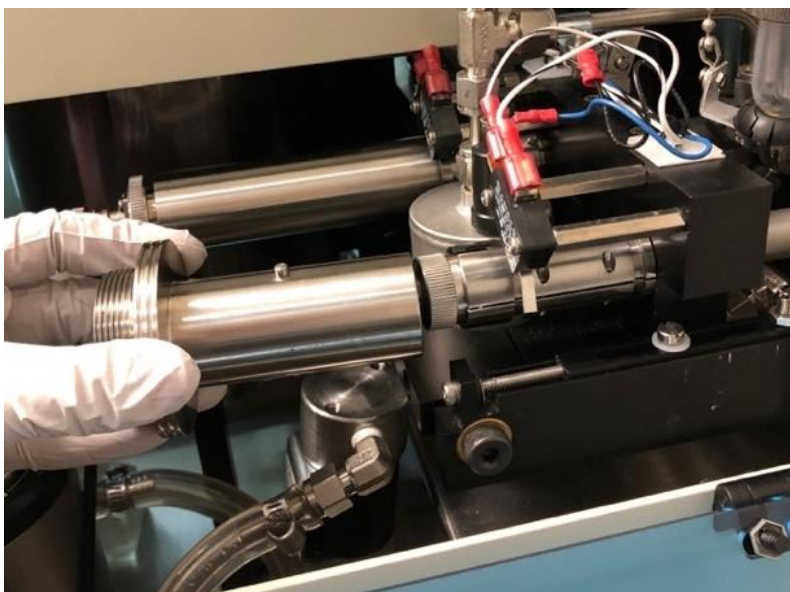

Figure 13. Macro cell interlock
- Insert the macro cell interlock (Figure 13). Turn clockwise to engage the micro switch.